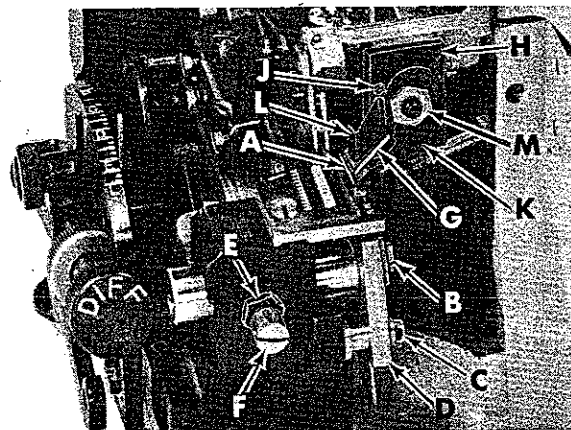

Fig. 15
Cutting edge of knife (A, Fig. 15) must be even and parallel with top surface of throat plate. Examine sewn sample for specified seam width and appearance.
With upper knife (G, Fig. 15) at lowest position of travel and while holding upper knife firmly against lower knife, adjust knife holder (H) left to right, to position front tip of upper knife cutting edge $1/64 - 1/32$ inch (.4 - .8mm) below cutting edge of lower knife, then tighten screw (J).